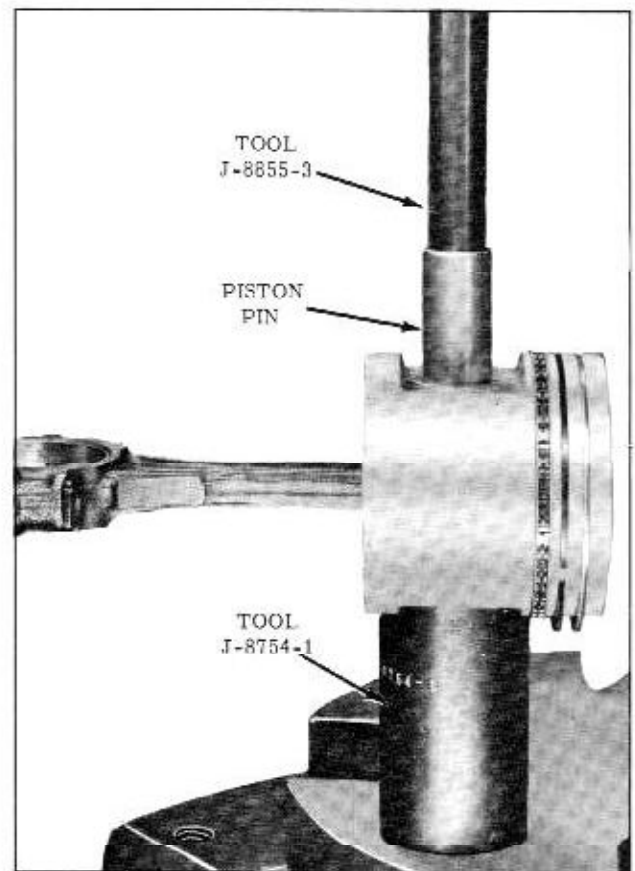

Fig. 8-32 Installing Piston Pin
3. Coat piston pin with engine oil. Place pin in piston as shown in Fig. 8-32. Press in piston pin with Tool J-8855-3 until it makes contact with guide stop Tool J-8751-2 in main body Tool J-8754-1. This will automatically center the pin in the piston. Pin to connecting rod fit is .0007 to .0013 tight.